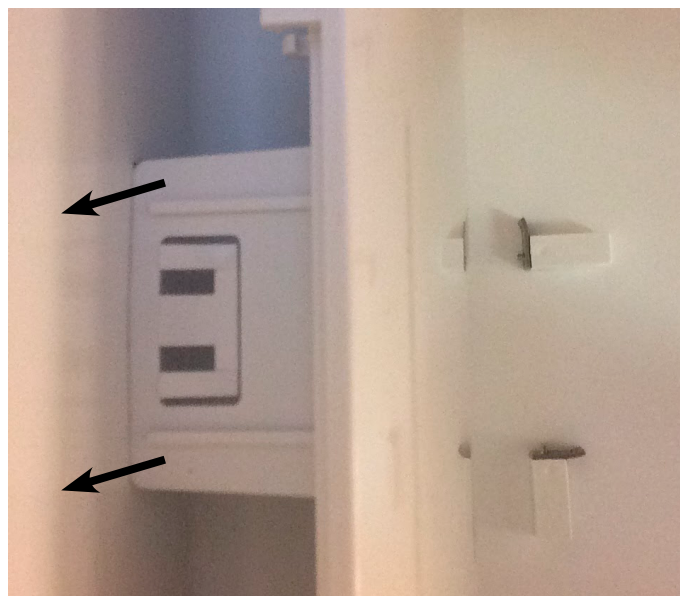

FIGURE 12: Air Cover Tabs (side view)
1. Release the ten (10) plastic tabs holding the air cover in place, (FIGURE 12) and remove the air tower cover.
3. Release the eight (8) plastic tabs on the Air Filter Assembly and remove.